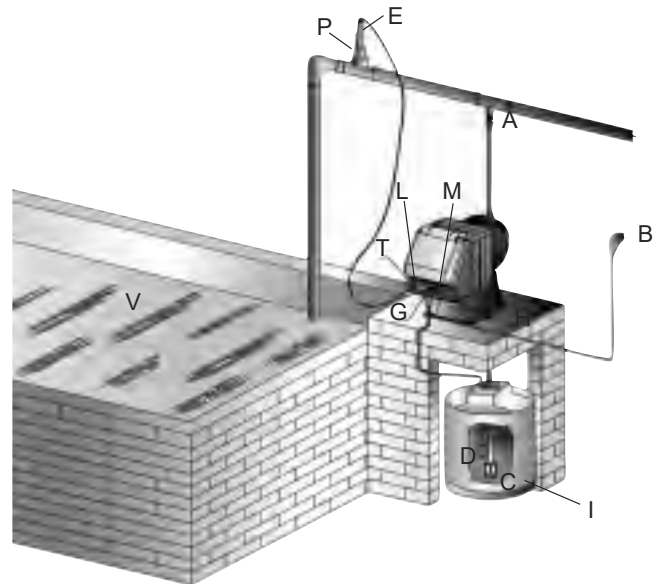

Fig. 12
- c. Locate the pump in position as shown in fig. 5 taking into account that it can be located over or under the liquid level within a maximum difference of 2 meters. The injection point must always be located higher than the liquid being injected. Do not install the pump directly on the tank as some additives produce vapour which may damage the equipment. For correct installation see fig.12. If the plant being treated operates at atmospheric pressure (free discharge additive) and the additive tank must be placed higher than the injection point (Fig. 6), check periodically that the injection valve is operating correctly, as excessive wear could cause additive injection by liquid loss (even when the plant is not operating). If the problem persists, insert a correctly calibrated **counter pressure valve C** between the dosing pump and the injection point (Fig. 6). For liquids that give off aggressive exhalations, do not install the pump over the tank unless the tank is hermetically sealed.
[fig.12]